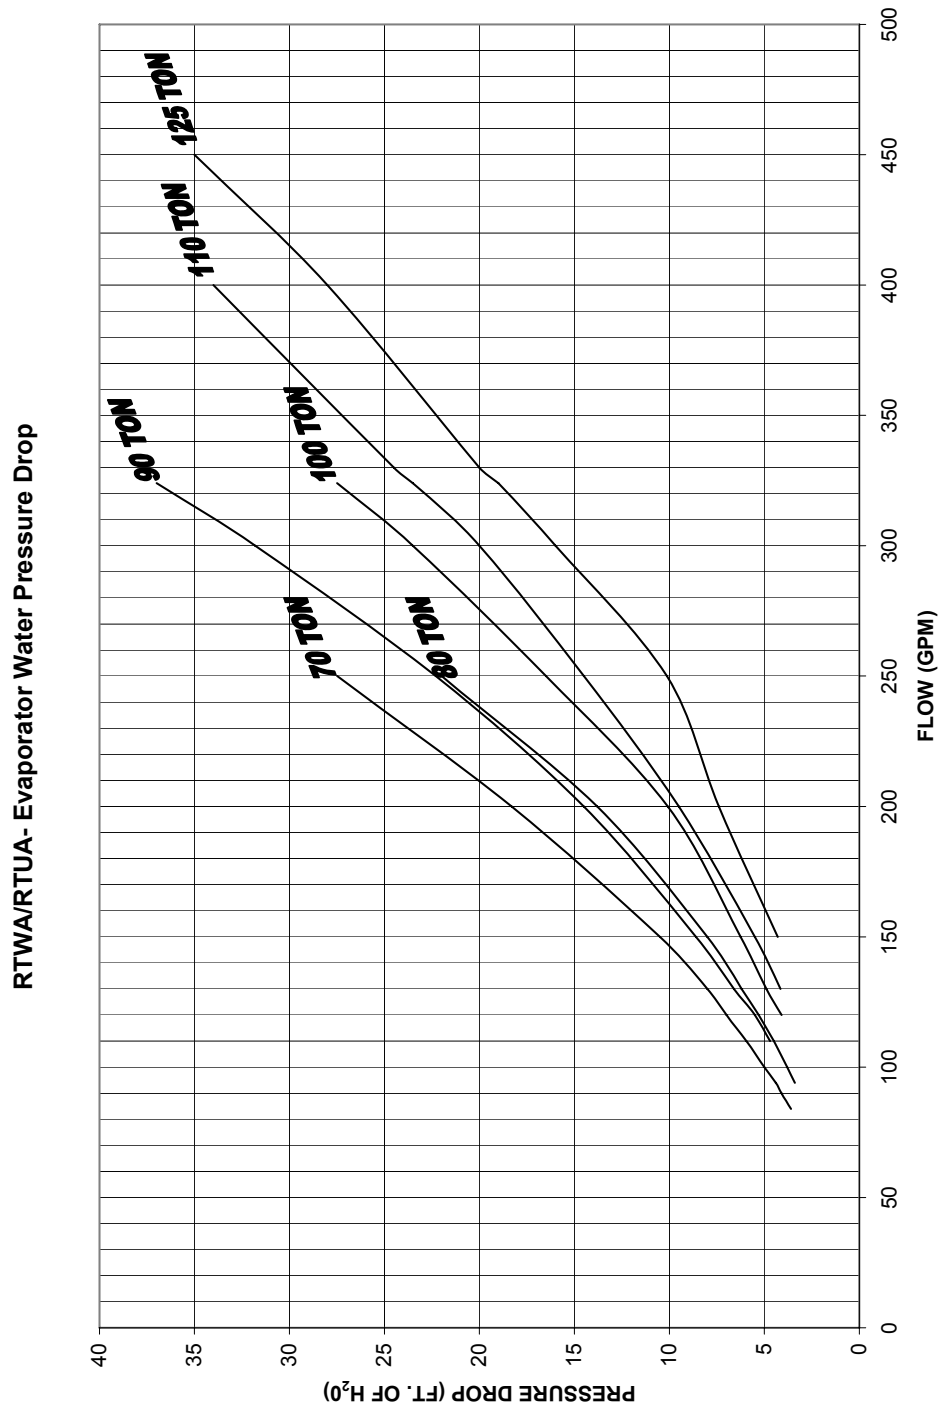

Figure 16 RTWA/RTUA – Evaporator Water Pressure Drop
3. Adjust the switch to open when water flow falls below nominal. Evaporator data is shown in Figure 16. Refer to Tables 1 to 3 (General Data) for minimum flow recommendations. Flow switch contacts are closed on proof of water flow.